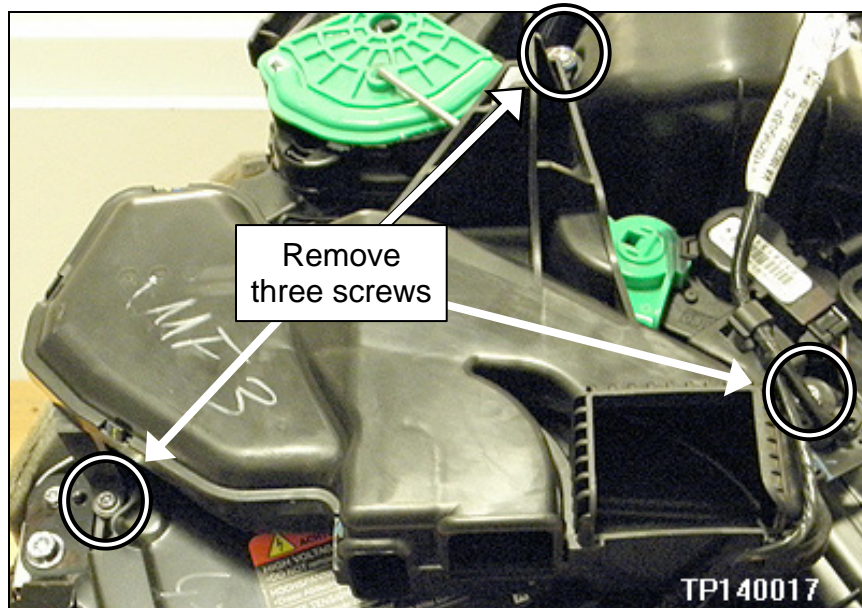

Figure 24
2. Remove the three T20 Torx screws that attach the ducting (shown in Figure 24).